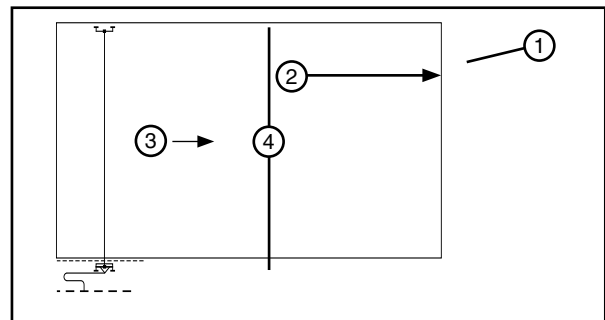

Figure 41-3 1. Field 2. Direction of Travel 3. Wet 4. STOP
1. The percentage timer is set at the desired application rate and the system is started at one end of the field and run wet (irrigating) to the middle of the field and stopped. See Figure 41-3.